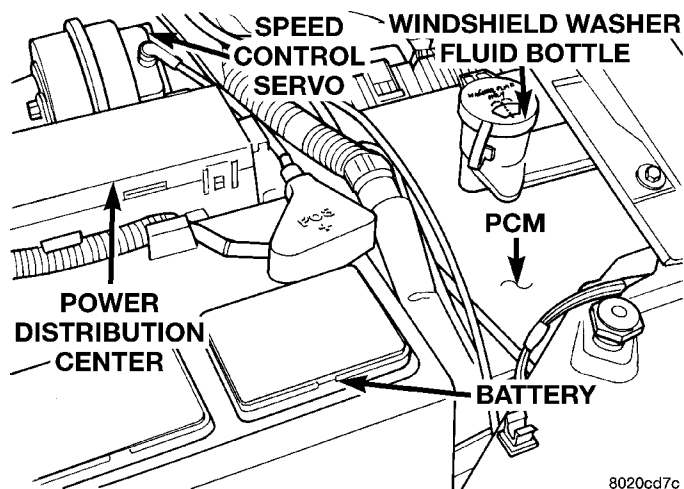

Fig. 54 Battery, PCM, and PDC
(2) Check the 2 PCM 40-way connector for stretched wires on pushed out terminals (Fig. 54).
(24) Inspect the connections to the speed control servo, if equipped (Fig. 54). Refer to Group 8H, Vehicle Speed Control.